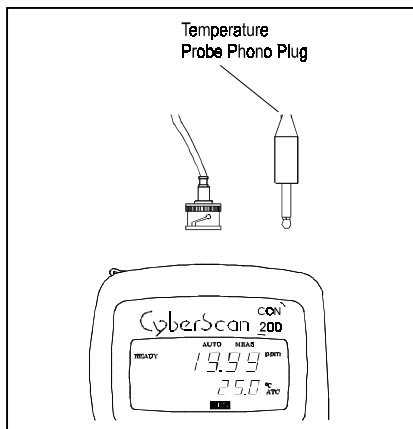

Figure 5: Connecting the built-in temperature sensor
- b) The built-in temperature probe uses a phono jack to connect with the socket on the meter. Insert the jack into the socket as shown in Figure 5.